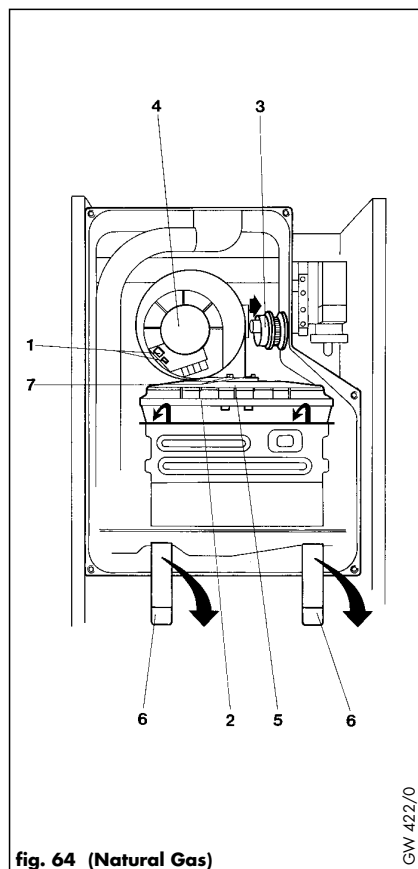

fig. 64 (Natural Gas)
- Remove the 2 burner retaining springs (6, fig. 64) by lifting the top of the spring up and pulling forward.
- Disconnect the 2 fan electrical connections (1, fig. 64).
- Slide the fan inlet restrictor (3, fig. 64) top the right to separate from the fan.
- Remove complete burner and fan assembly by lifting the burner plate (2, fig. 64) at the front and pulling forward to disengage burner from a spring clip at the rear.
- Remove burner plate from fan assembly by removing the 2 bolts (5, fig. 64).